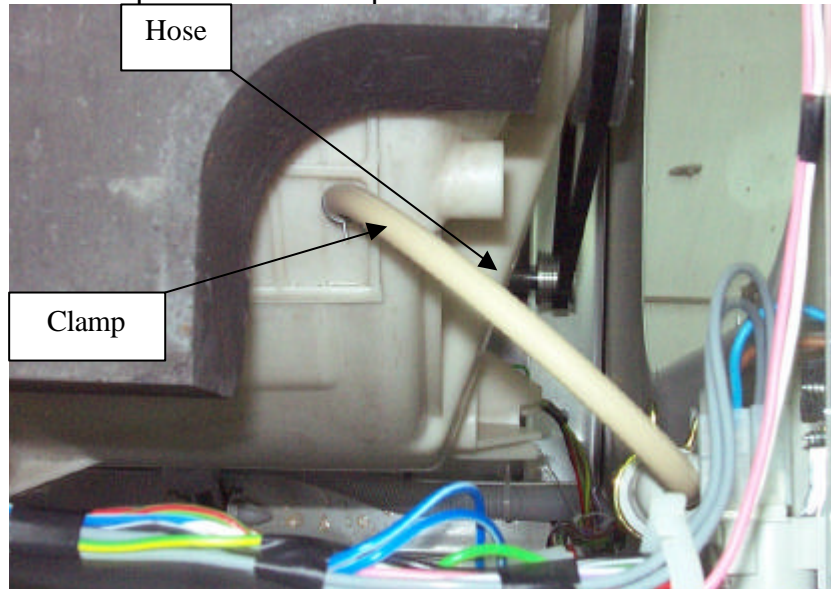

Figure : 13
- Hose is pulled from the tub. (figure 13)